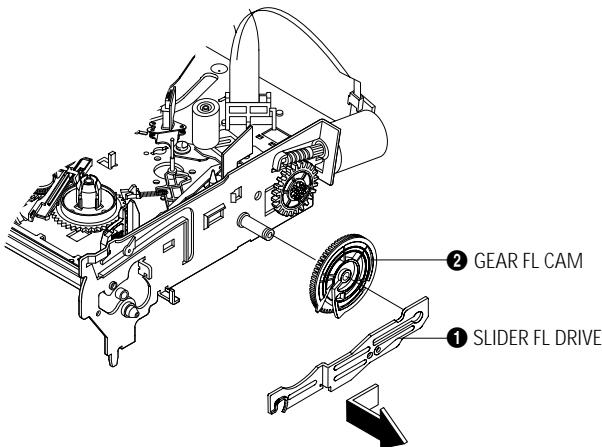

Fig. 4-10 Slider FL Drive Removal
- 1) Pull the Slider FL Drive ① to the front direction.
- 2) Remove the Slider FL Drive ① in the direction of arrow. (Refer to Fig. 4-10)
- 3) Remove the Gear FL cam ②.